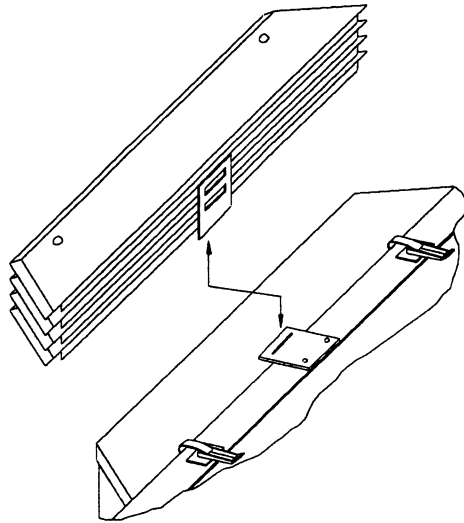

Figure 15
2. Remove the top louver assembly and door (Figure 15).